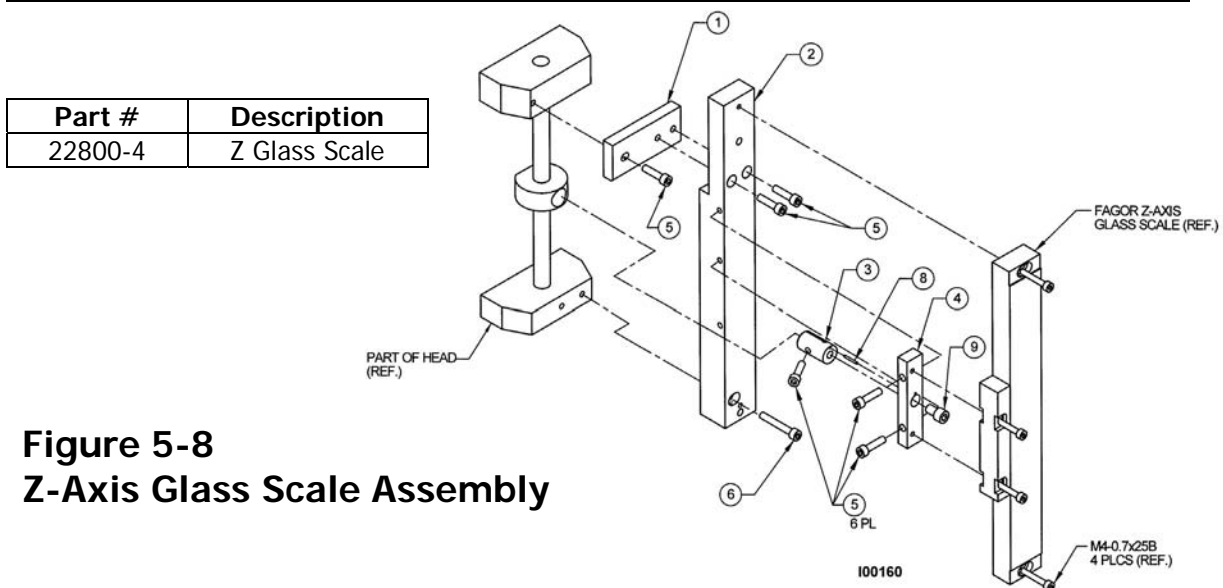

Figure 5-8
See Figures 5-8 through 5-10 for an illustration of how to install glass scales.
5.1.7.3 *Install the Z-Axis Glass Scale, where applicable* (See Figure 5-8)